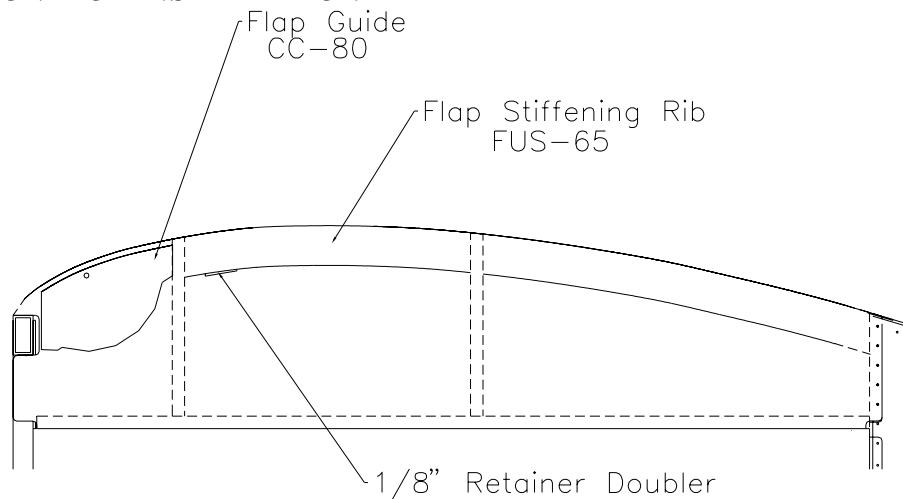

Figure 20.12.6
10) Position the flap guide on the flap rib. Figure 20.12.6.